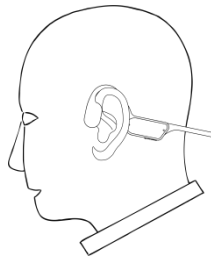

Figure 3. Wearing diagram
- 1) Wear it as shown in the figure 3 below:
- (1) Failing to follow the manual's steps for wearing and removal, such as powering on before wearing or powering off before removal. This only affects user experience—for example, powering on before wearing may cause sound output, impacting the wearing experience—but does not cause unacceptable or irreversible damage to the product's fundamental safety or performance.
- (2) Incorrect placement, such as positioning the bone conduction transducer at the ear canal opening instead of the location shown in Figure 3 on page 10. This only affects user experience — e.g., minor whistling due to sound leakage from the transducer — and improves when properly positioned. It does not cause unacceptable or irreversible damage to the product's fundamental safety or performance.
- (3) After wearing the device, adjust the gain using the volume buttons. Regardless of whether the product is powered on or off, the power switch and volume up/down buttons can be freely operated. This allows restoring the user's volume settings and does not cause unacceptable or irreversible effects on the product's basic safety or essential performance.